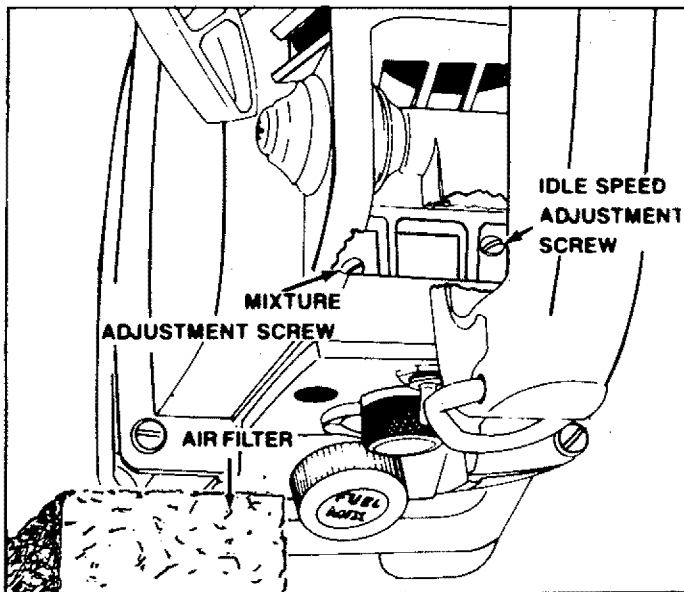

Figure 6
- Turn **Mixture Screw** (Figure 6) clockwise → until fully closed, but **do not overtighten**. Figure 6. Unscrew mixture screw one full turn counterclockwise ←.
- Turn **Idle Speed Screw** (Figure 6) clockwise → until it stops. **do not overtighten**. Open screw three full turns counterclockwise ←.